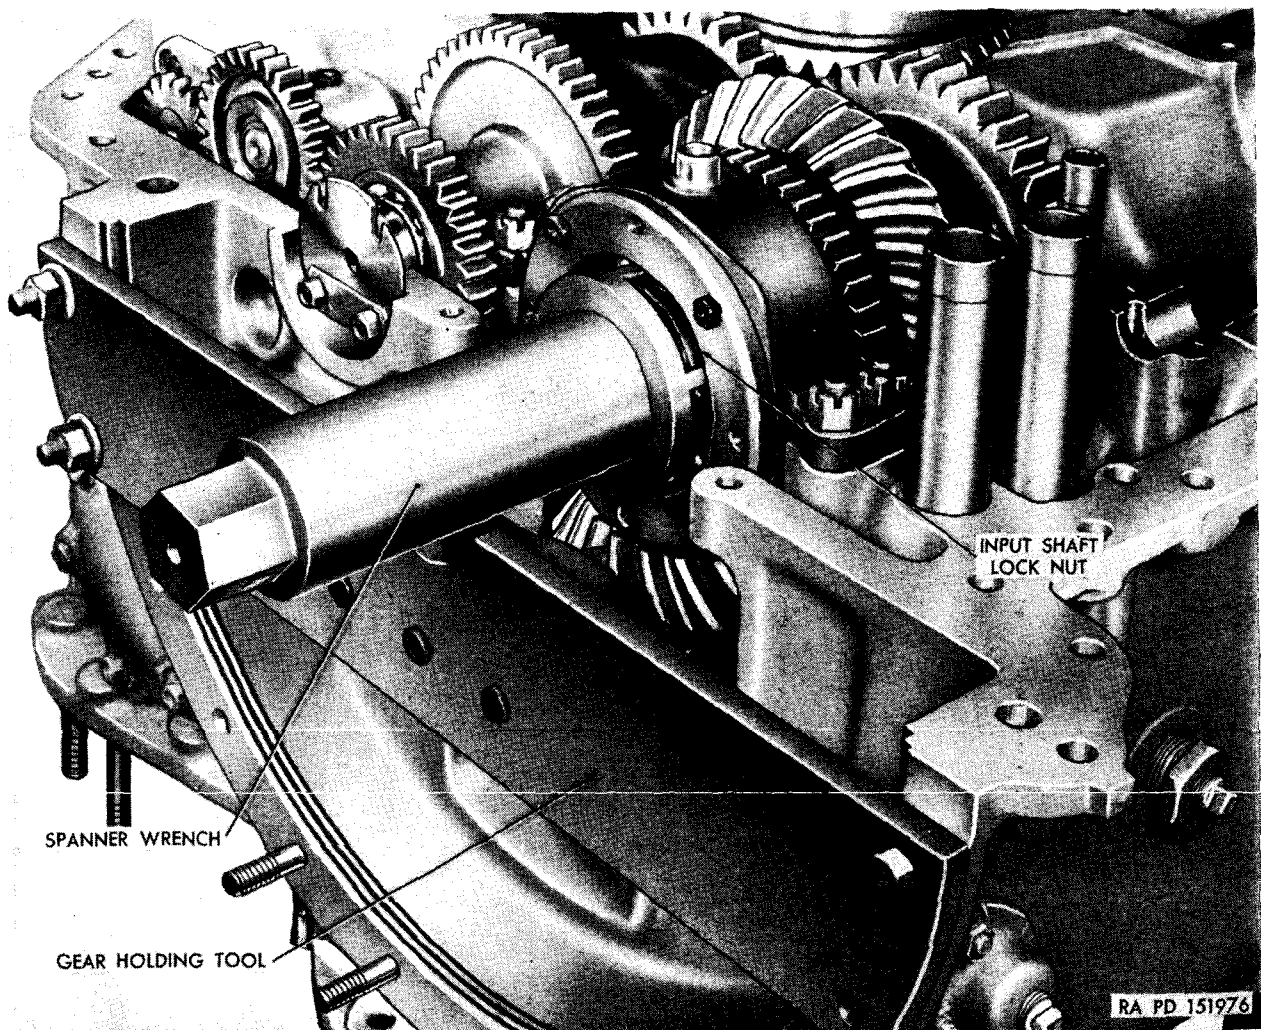

Figure 237. Improved tools installed.
- (1) Remove the lock ring from the input-shaft lock nut, using a screwdriver. Install the spanner wrench on the input-shaft lock nut. Install the gear holding tool to lock the input shaft (fig. 237).